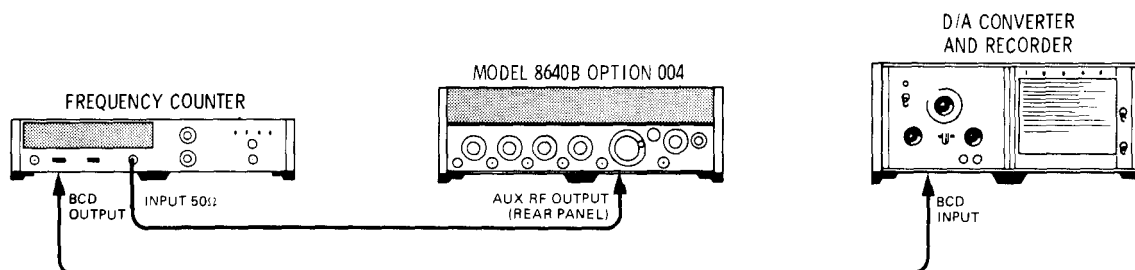

Figure 4-1. Frequency Stability vs Time and Restabilization Time Test Setup
1. Connect equipment as shown in Figure 4-1 after setting Signal Generator's controls as follows: